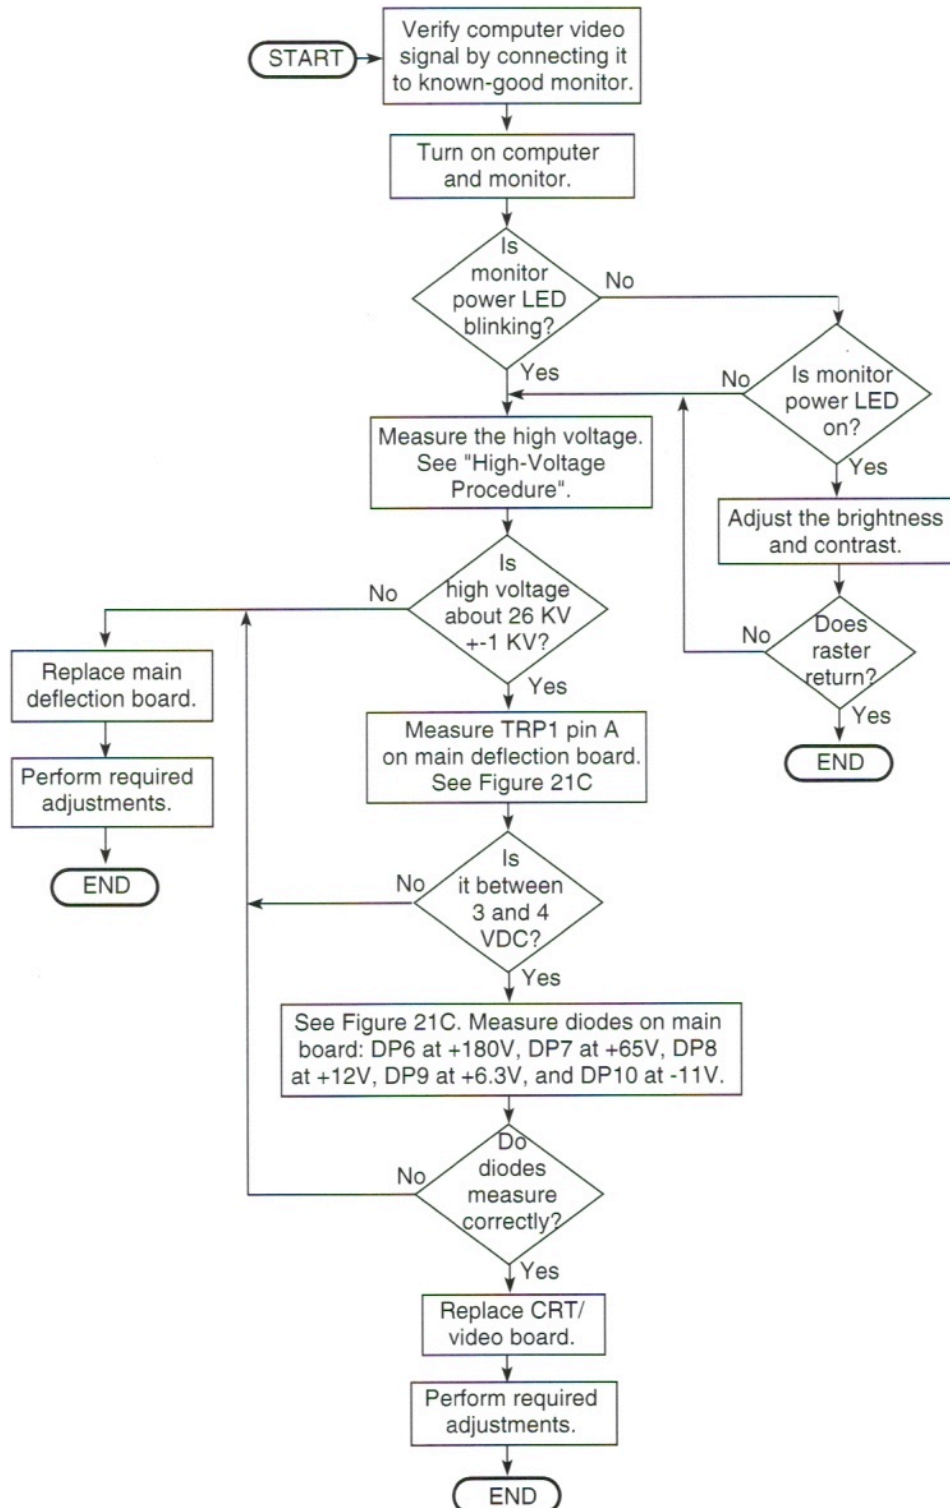

Figure 16. No Video Flowchart
The flowcharts (Figures 16–20) and Figure 21, "Troubleshooting Test Points," that follow this Symptom/Cure Chart provide additional information for identifying problems and possible cures. Use the flowcharts in conjunction with this Symptom/Cure Chart for best results.
No video (See Figure 16)
This high-voltage check is a required procedure in the No Video Flowchart (Figure 16). When the monitor has a No Video condition, the high-voltage check would be the first step in ruling out a main deflection board problem.
9. See Figure 16, "No Video Flowchart."